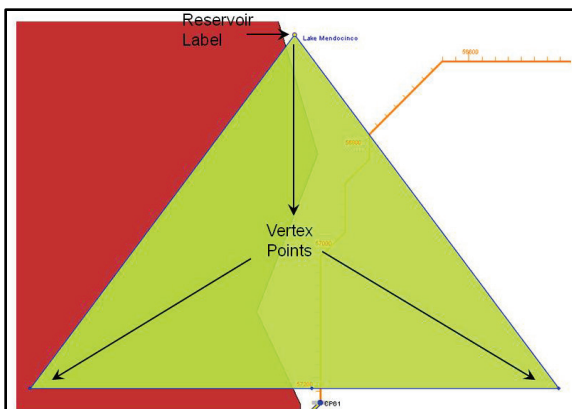

Figure 7.18 Reservoir Pool
5. The default representation of the reservoir pool is a triangle; the user can edit this triangle if a more detailed representation of the pool is desired. With the **Reservoir Tool** pressed, double-click on the reservoir. The triangle (Figure 7.18) will now be green with a blue outline color. Also, there are three vertex points (blue), and at the apex of the triangle is the reservoir label, which is represented by a yellow circle.